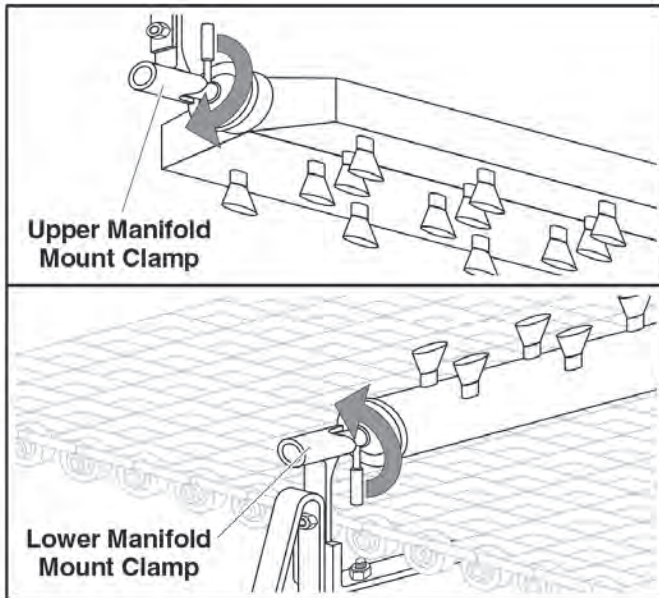

Figure 11
- a. Rotate the Mounting Clamp handle counterclockwise to release the Scrapper Spray Manifold (Figure 11).